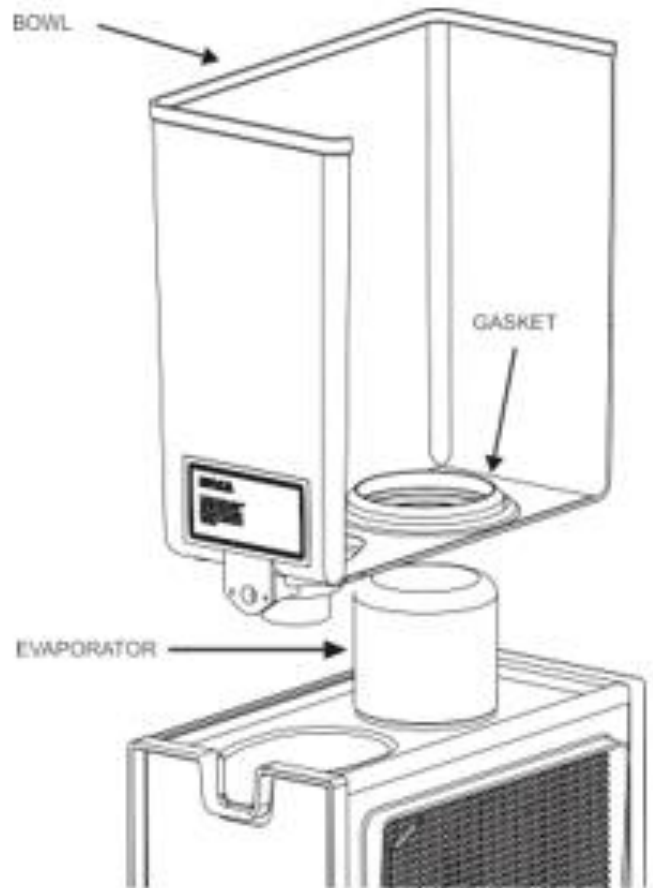

FIGURE 4.2
- C. **INSTALLING BOWL:** Wet Evaporator Dome with a damp cloth. Lower Bowl around Evaporator Dome while rocking Bowl back to front to facilitate Bowl Gasket sliding down over Evaporator Dome (reference INSTALLATION DIAGRAMS, FIGURE 4.2, p5).
6. Wet Evaporator Dome with damp cloth. Lower Bowl around Evaporator Dome while rocking Bowl back to front to facilitate Bowl Gasket sliding down over Evaporator Dome (reference INSTALLATION DIAGRAMS, FIGURE 4.2, p5).